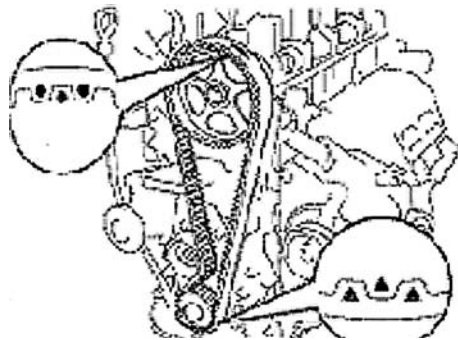

Figure 42
- (a) Mark on pulley and belt (in engine turning direction) if re-using timing belt (See Figure 42).